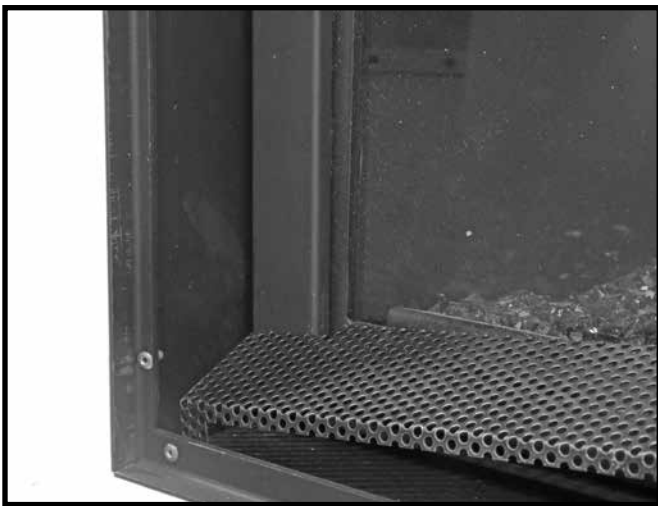
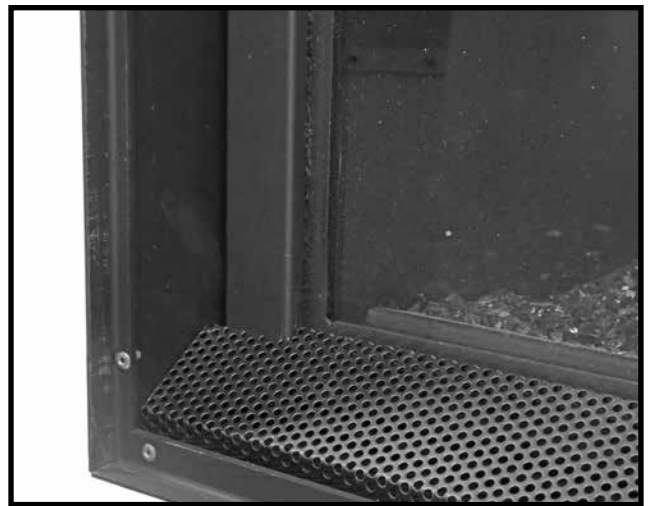

Figure 69: Installing bottom trim.
Figure 70: Bottom trim in place.
4. The meshed trim piece for the bottom rests on the floor and in the gap between the outer-most door frame and the fireplace glass (Figure 69 and Figure 70).